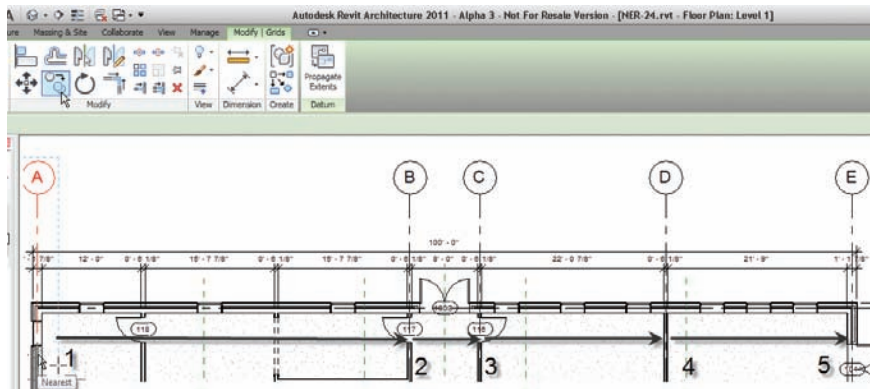

FIGURE 8.17 Copying the grid line to the other walls
2. On the Modify | Grids tab, click the Copy button, as shown at the top and center of Figure 8.17.
3. On the Options bar, make sure the Multiple checkbox is selected, as shown near the top left of Figure 8.17.
4. Pick a base point along the grid line within the wall, as shown in Figure 8.17.
5. Copy grid A to the wall centerlines, as shown in Figure 8.17. Notice that the grid lines will autosequence as you go.